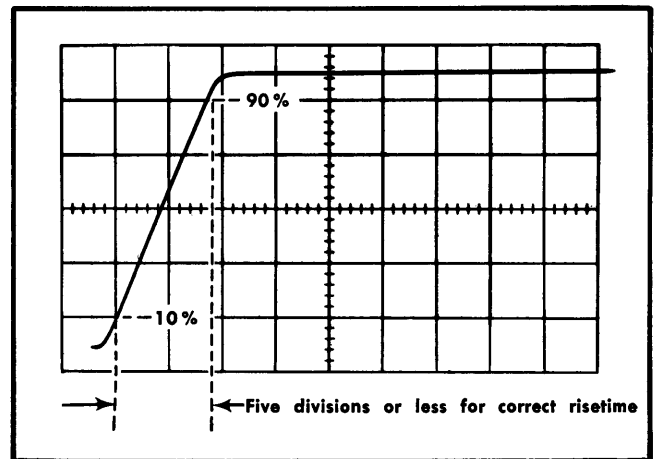

Fig. 5-47. Typical CRT display when checking Calibrator risetime.
d. CHECK—CRT display for five divisions or less between the 10% and 90% points on the leading edge of the calibrator waveform (one microsecond or less risetime; see Fig. 5-47).